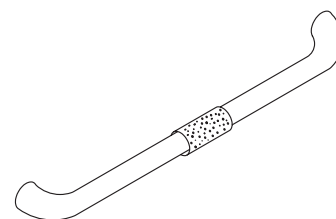

Figure 32
- Install foam grip on lid handle. **See Figure 32.**
Attach the lid stop assembly to the grill bottom as shown in Figure 32.